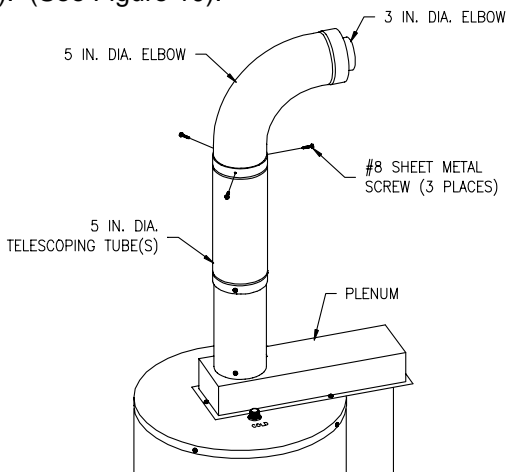

Figure 10
8. Place the straight end of the five (5) inch (12.7 cm) diameter elbow over the three (3) inch (7.6 cm) diameter elbow into the end of the five (5) inch (12.7 cm) diameter telescopic tube(s), one (1) inch (2.5 cm) (or until seated). Make certain that the five (5) inch (12.7 cm) diameter elbow is oriented in the same direction as the three (3) inch (7.6 cm) diameter elbow and both are oriented in the correct direction. Drill three (3) 1/8 inch diameter holes, 120° apart, through the five (5) inch (12.7 cm) diameter telescopic tube(s) into the five (5) inch (12.7 cm) diameter elbow. Fasten with three (3) #8 sheet metal screws (supplied). (See Figure 10).